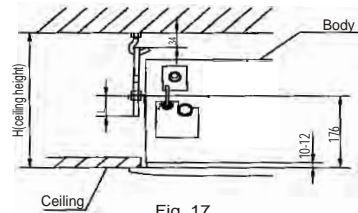

Fig. 17
The length could be calculated from Fig.17:
- The body's lower part should sink into the ceiling for 10-12mm (Refer to Fig.17).